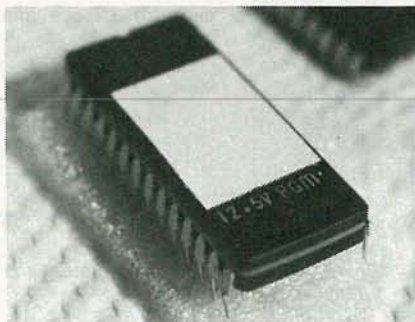

FIG. 1
- **Musketeering.** In musketeering, you sign up your Videocipher 2000 for one service, typically a low-cost service such as CNN/CNN Headline News, which sells for \$25 per year. The U30 EPROM is then replaced with a new EPROM, like the one shown in Fig. 1, which is specially rewritten for the occasion. When the new EPROM is in-